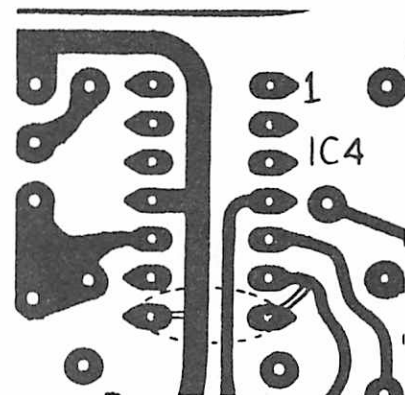

Fig. 5
9. Replace diode with jumper wire. Refer to Select schematic, Figure 5 of Selectake II manual.
7. Using Mylar sleeving over cap leads; solder .02uF cap to traces from IC4 pins 6 and 11. See Figure 5, below.